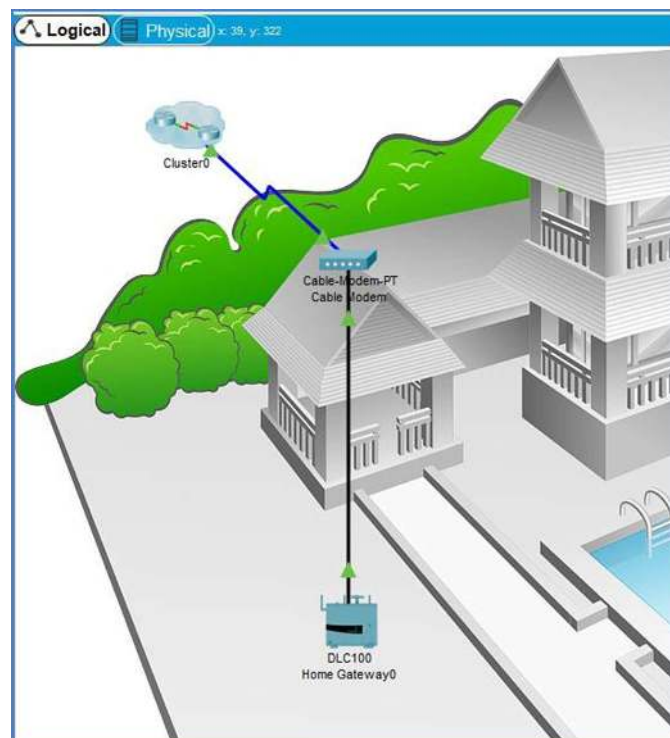

Figure 8.4: Active Link Indicators between Home Gateway and Cable Modem
- Wait a few seconds for the ports to negotiate. Both the Home Gateway and the Cable Modem should display green link lights, indicating a successful physical connection (Figure 8.4).